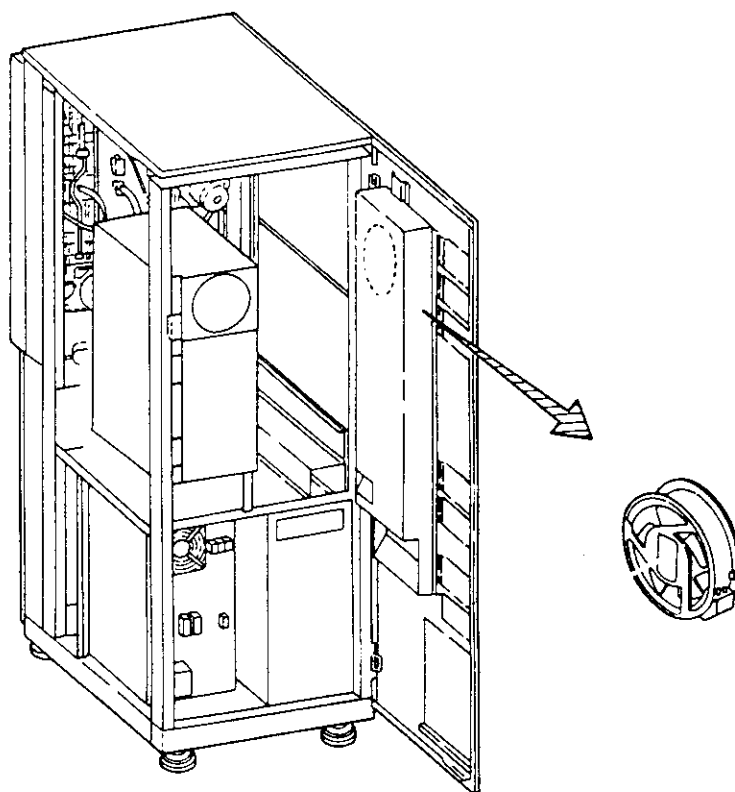

Figure L.39 Rear door fan
- (1) Disconnect connector CNP46.
- (2) Remove the six nuts and remove the duct from the rear door shown in Figure L.39.
- (3) Remove two screws and remove the fan.